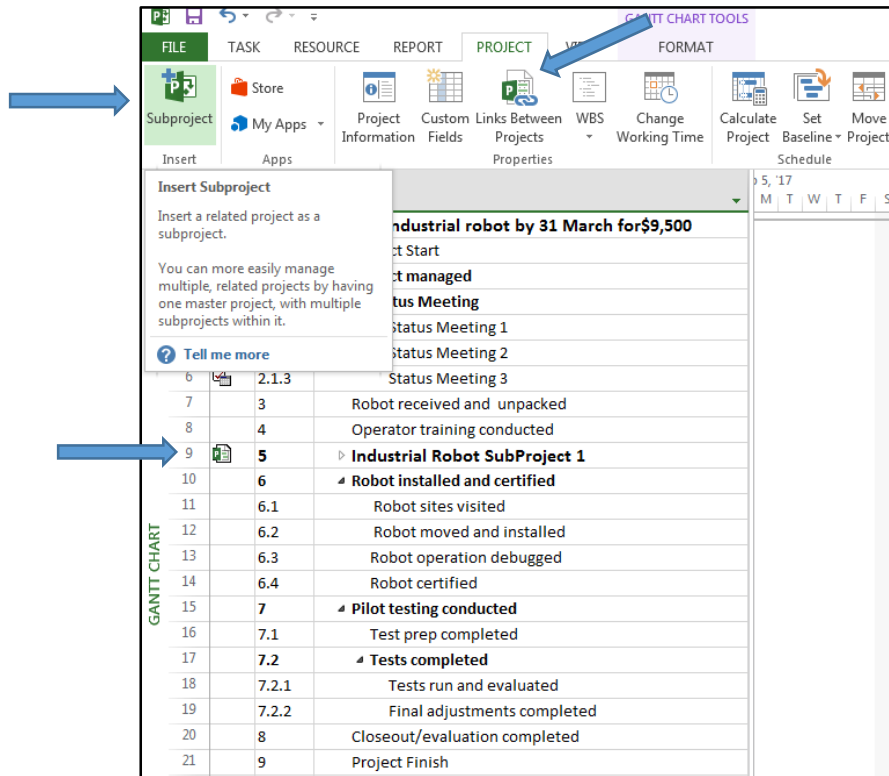

Figure 6
- You can insert a sub-project (or several) into a WBS to create a master project. First create a project file for each sub-project. In the master project, on the View tab, click Gantt Chart. Then on the Project tab, click the Subproject button. Insert the files you want. Keep the Link to project box checked so that changes to one file are reflected automatically in the other file. (Figure 6)